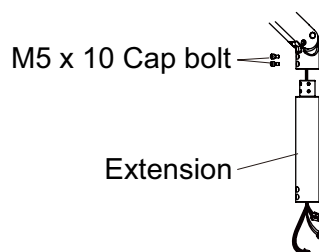

Fig.13
- (1) Pass the light cables through the extension. Fix the extension to the balance arm with M5 x 10 cap bolts. (Refer to **Fig.13**)
- (2) Attach the light head to the extension. Refer to the P7 [Attach the Light Head] section.